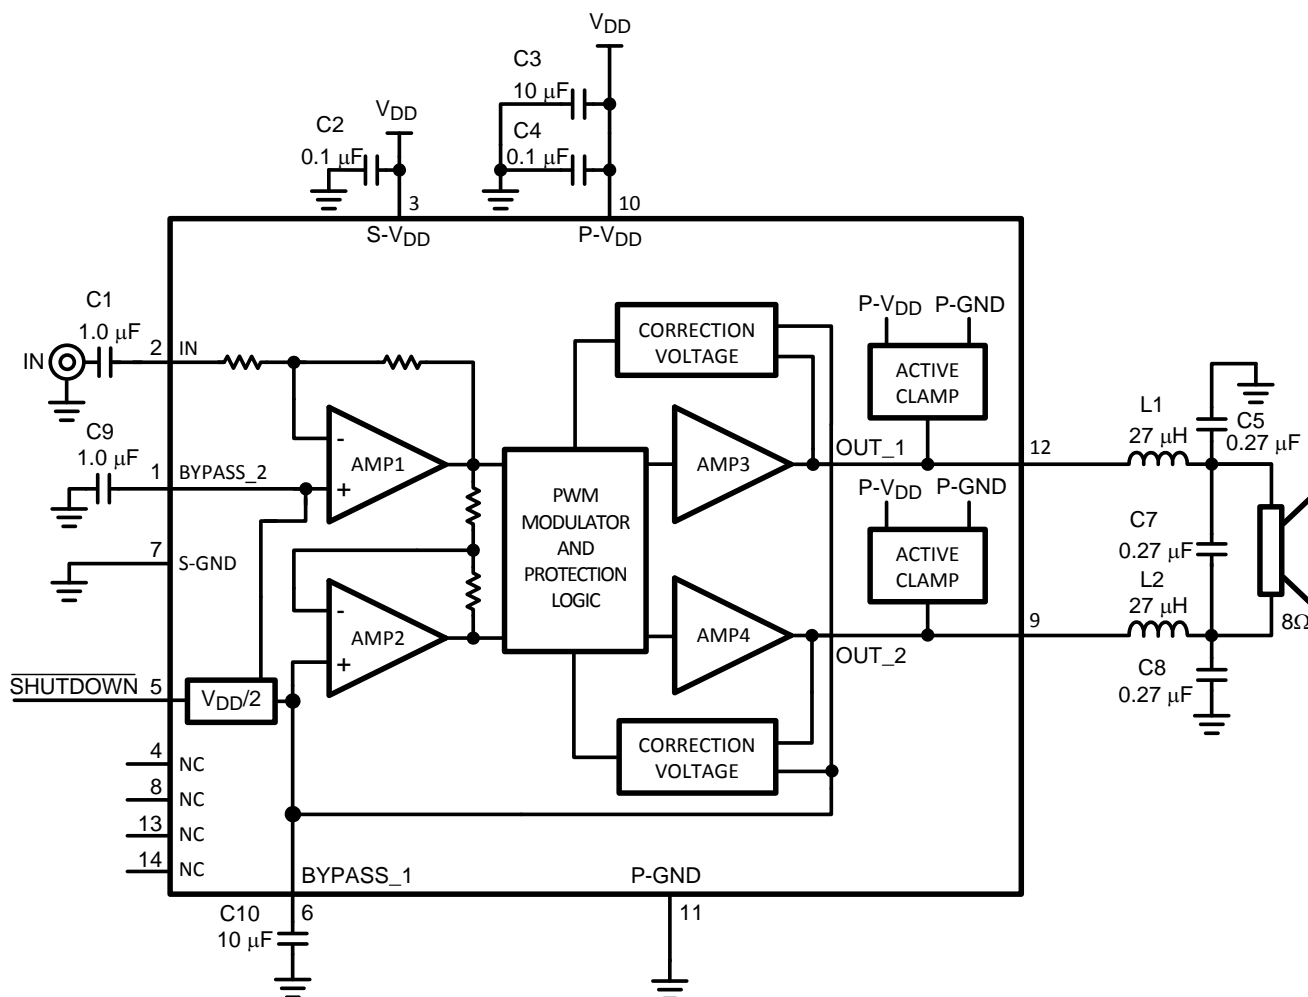

Figure 2. Typical Audio Amplifier Application Circuit
- (1) All voltages are measured with respect to the GND pin unless otherwise specified.
- (2) Absolute Maximum Ratings indicate limits beyond which damage to the device may occur. Operating Ratings indicate conditions for which the device is functional, but do not ensure specific performance limits. Electrical Characteristics state DC and AC electrical specifications under particular test conditions which specify performance limits. This assumes that the device is within the Operating Ratings. Specifications are not ensured for parameters where no limit is given, however, the typical value is a good indication of device performance.
- (3) The maximum power dissipation must be derated at elevated temperatures and is dictated by T_{JMAX} , θ_{JA} , and the ambient temperature T_A . The maximum allowable power dissipation is $P_{DMAX} = (T_{JMAX} - T_A)/\theta_{JA}$ or the number given in Absolute Maximum Ratings, whichever is lower. For the LM4680 typical application (shown in Figure 2) with $V_{DD} = 12V$, $R_L = 8\Omega$ stereo operation, the total power dissipation is 900mW. $\theta_{JA} = 40^\circ C/W$
- (4) Human body model, 100pF discharged through a 1.5k Ω resistor.
- (5) Machine model, 220pF – 240pF discharged through all pins.
The following specifications apply for the circuit shown in Figure 2 operating with $V_{DD} = 12V$, $R_L = 8\Omega$, and $f_{IN} = 1kHz$, unless otherwise specified. Limits apply for $T_A = 25^\circ C$.